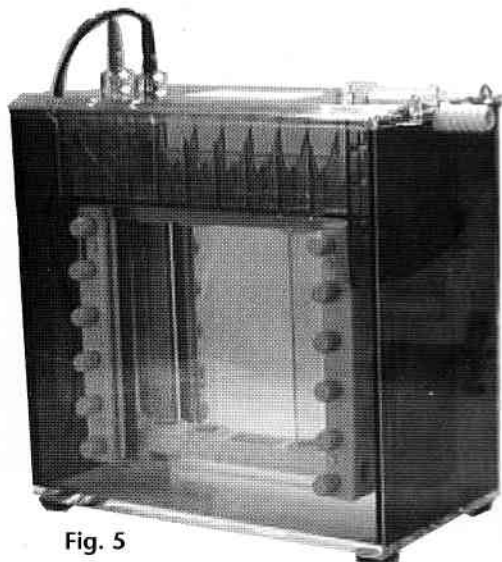

Fig. 5
- 5 Fit the safety lid on the banana plugs (Fig. 5). Turn on the magnetic stirrer (not shown) and start the (optional) coolant flow. Connect the power leads to a power supply. See the SE 600 user manual for recommended running conditions.